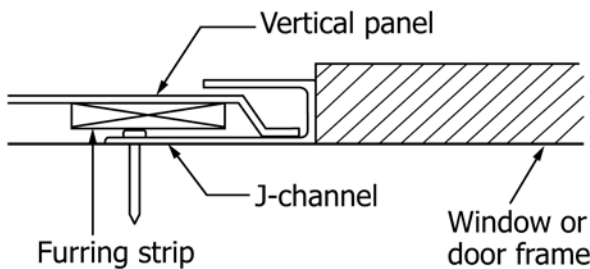

FIG. 26 Installation with Panel Cut in V-Groove
10.12.1 If the panel is cut down in the V-groove, fasten a wood furring stop as shown in Fig. 26, with fasteners that do not penetrate the legs of the J-channel or corner post, insert the cut side over the furring strip and into the J-channel, locking the other side into the last panel. (See Fig. 26.)